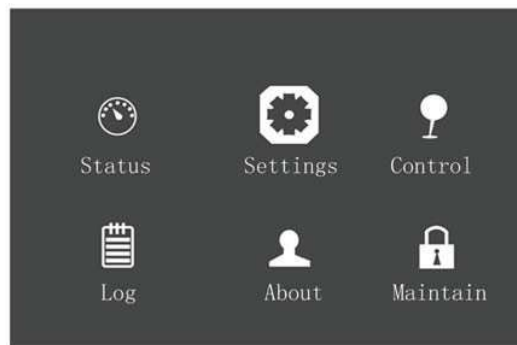

Figure 5-22 Main menu
1. After switching the UPS on, access the main menu screen and press the **▲** or **▼** key to move the cursor to select 'Settings'. See Figure 5-22.